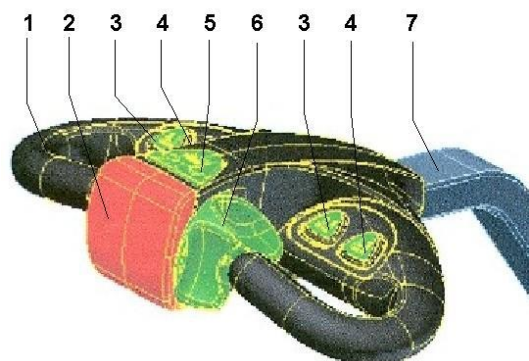

Fig. 2
- check the jam safety on the steering handle by pressing the safety switch (2, fig. 2), the V-move XL should not start in that case.
Steering handle (Tiller head) (fig. 2)